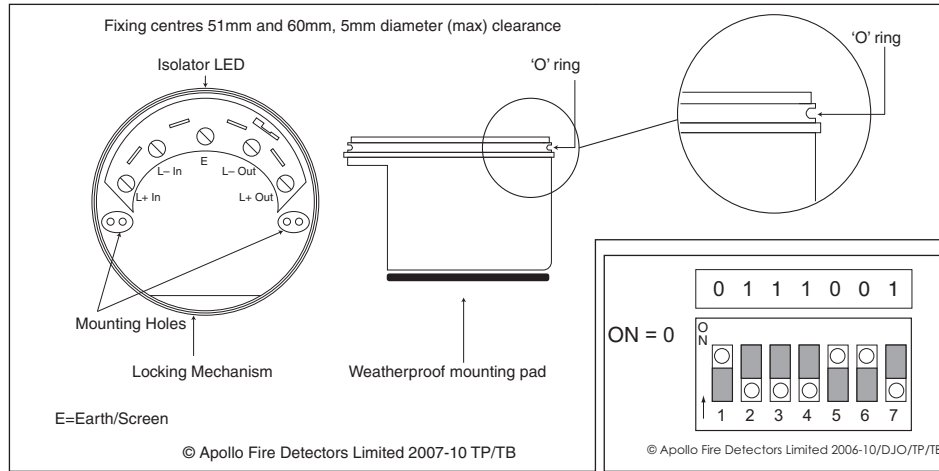

Fig 1. Wiring diagram
- Secure the base to the mounting surface with pan-head screws. If IP65 integrity is required, fit the weatherproof mounting pad between the base and the mounting surface. Fit the 'O' ring to the base (Fig 1) using a lubricant such as silicone grease.
- To lock the sounder in the base, snip the break-out on the base rim (location shown in Fig 1). Fit the sounder to the base.